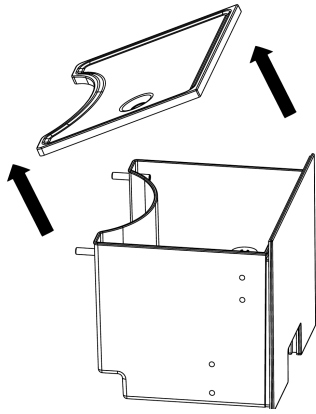

Figure 9 · Lift the lid off
3. Lift the lid off the tank (Figure 9).